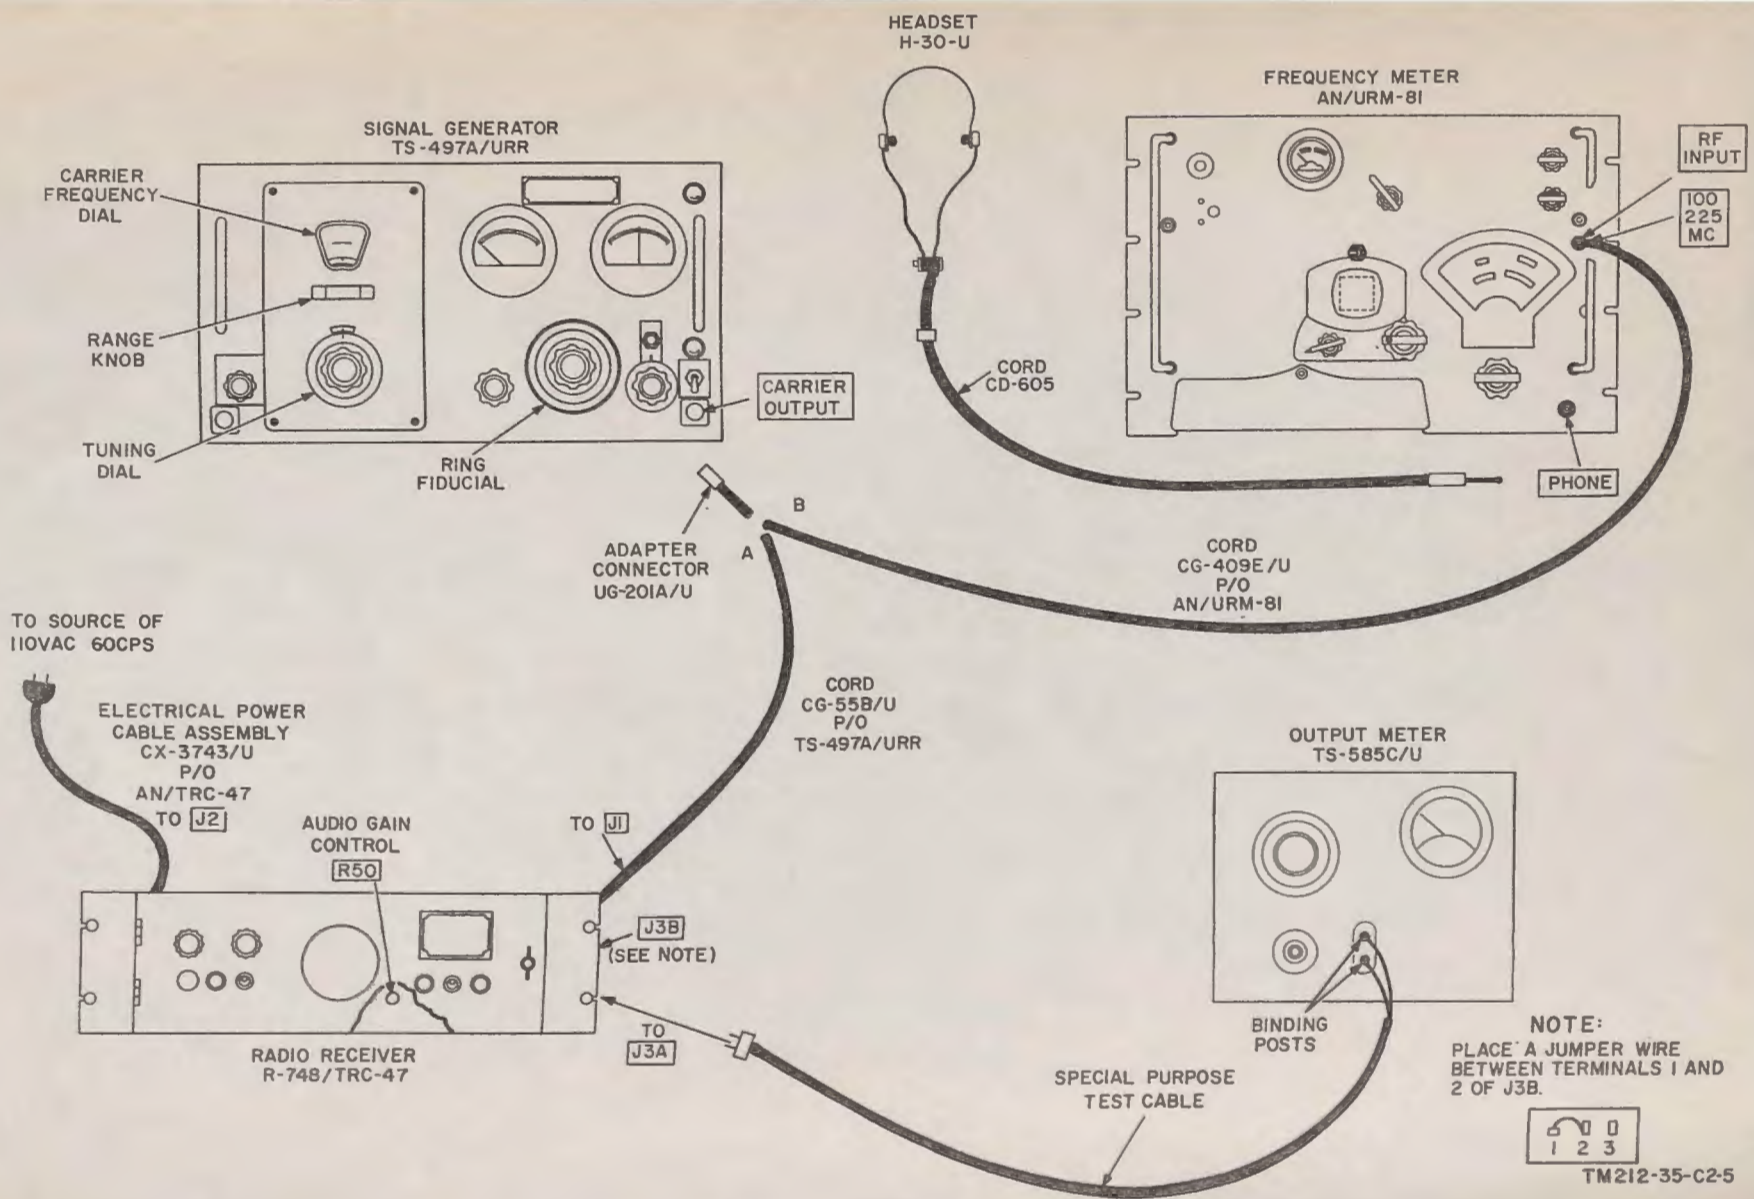

Figure 48.5. (Added) Receiver selectivity tests.
b. Test Connections and Conditions. Connect the equipment as shown in A, figure 48.5.